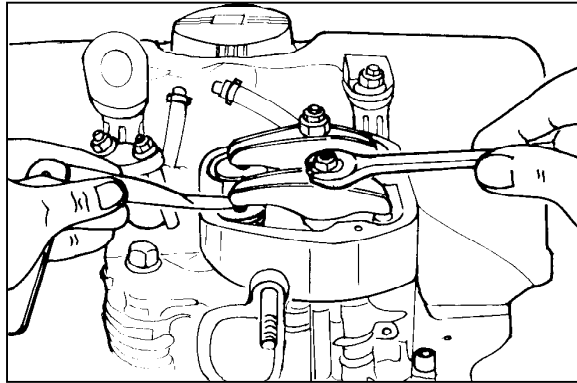

Figure 14
- ❖ Bring the piston to top dead center on the compression stroke and measure the rocker arm clearance. It should read 0.004 inches to 0.006 inches. If this is not the case, adjust the rocker arm clearance as follows. See figure 14.